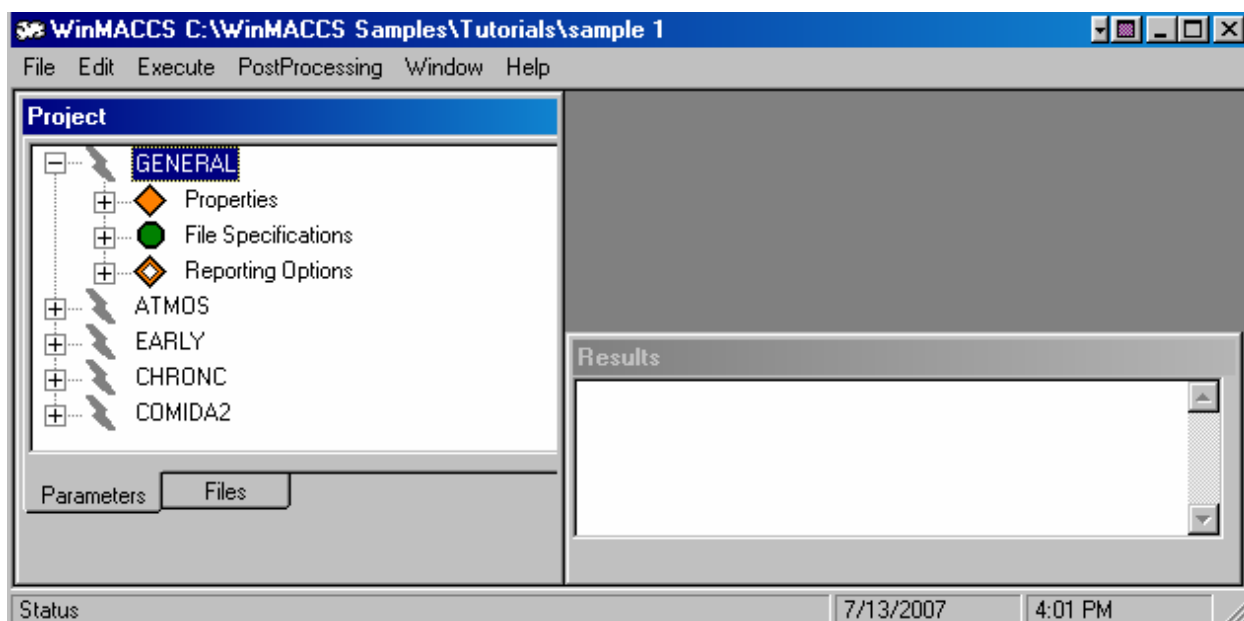

Figure 4-1 Project and Results Windows
When a project is opened using the *File*→*Open Project* command or a new project is created using the *File*→*New Project* command, a *Project* window and a *Results* window are opened. The *Project* window is used to modify parameter values and view related project files. Figure 4-1 shows the main components of a project.
- The caption at the top of the window indicates the name of the open project and the location of that project. In the example shown in Figure 4-1, the file C:\WinMACCS Samples\Tutorials\sample 1 is open.
Double-clicking on a file name opens the selected file in Notepad for editing. The user can modify the file and save it. The modified file is used when MACCS2 is run. Files in the Data\ directory other than those in *File Specifications* (Figure 4-1) are not shown in this view.